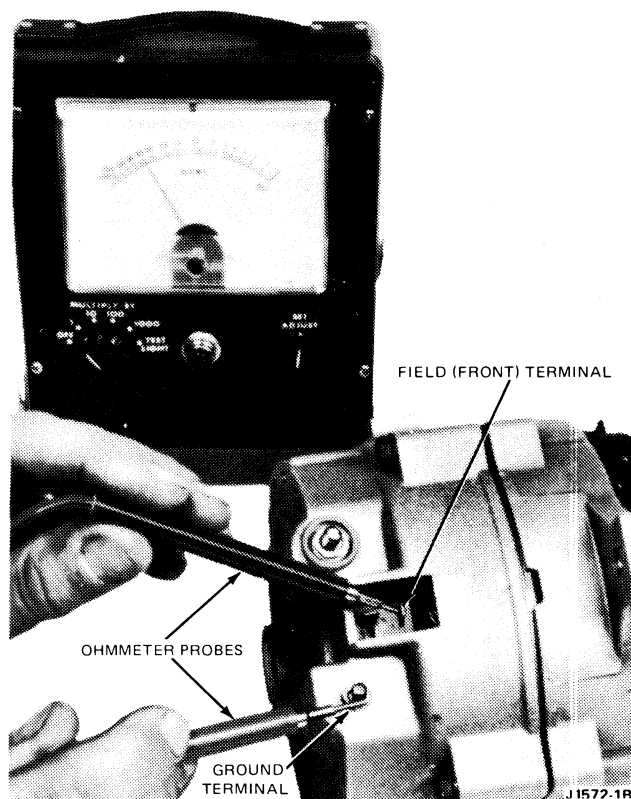

FIG. 6 Field Open or Short Circuit Test
1. Contact the alternator field terminal with one probe and the ground terminal with the other probe (Fig. 6). Then, spin the alternator pulley. The ohmmeter reading should be between 2.4 and 200 ohms and should fluctuate while the pulley is turning.